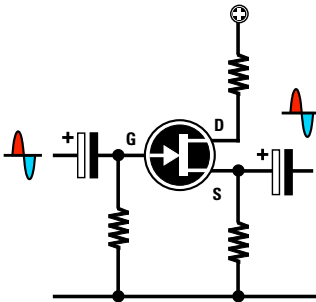

Fig.508 Common Drain
**Common Drain o Drain comune (fig.508)**